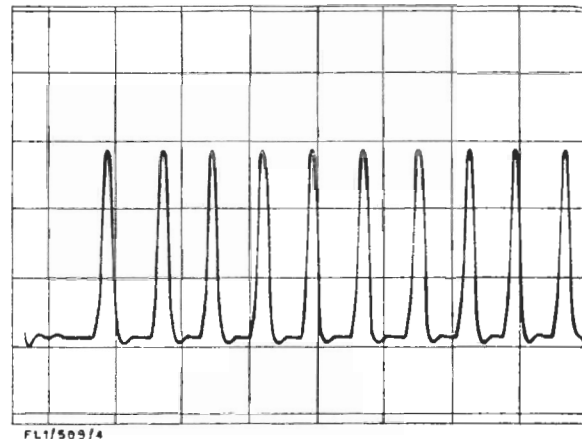

Fig. 4 Pulse Train Formed from 10-step Staircase Waveform
2. Check that the overshoot that occurs after each pulse in the train is completed before the next pulse begins and that there is a quiescent period between adjacent pulses (see Fig. 4).